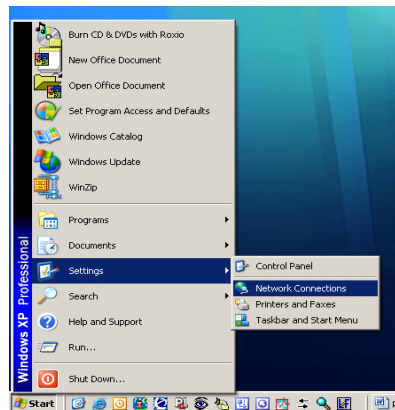

Figure D-4: Accessing the Network Connections Screen
- a. In Windows, click on Start > Settings > Network Connections (Figure D-4).